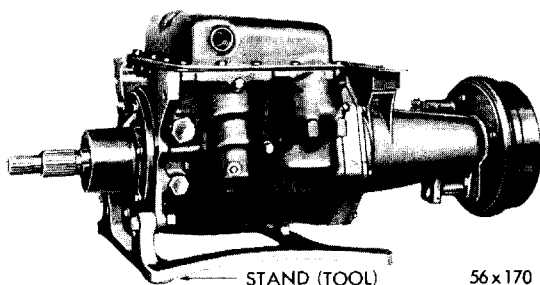

Fig. 9—Transmission Inverted in Repair Stand
(2) Disconnect front propeller shaft universal joint and secure shaft to frame.
(3) Remove brake adjusting screw cover plate and loosen cable clamp bolt on hand brake cable support. Disengage ball end of handbrake cable from operating lever and remove cable from handbrake cable support.
(4) Disconnect speedometer cable and housing. **To avoid damage to neutral starting switch, remove switch from transmission case before removing transmission from vehicle.**
(5) Disconnect throttle linkage from lever at transmission. Remove gearshift control cable.
(6) Remove engine rear support insulator bolts from crossmember.
(7) Install engine support fixture, Tool C-3487. Adjust fixture to support weight of engine and raise engine slightly.
(8) Remove crossmember to torsion bar support bracket bolts. Remove the rear motor support insulator bolts to support bracket, then remove the complete support assembly from the crossmember. When using Fixture, Tool C-3487, do not lower engine more than three inches from floor pan to avoid disturbing the set position of water hoses and other engine attachments.
(9) Support transmission with a suitable jack. Remove the two upper transmission case to converter housing screws and lockwasher. Install guide studs, Tool C-3276.
(10) Remove the two lower transmission case to converter housing screws and lockwashers. Now, slide jack and transmission straight back to avoid damaging front pump drive sleeve. After removing transmission from car, attach fixture, Tool C-3280, and invert transmission assembly as shown in Figure 9.